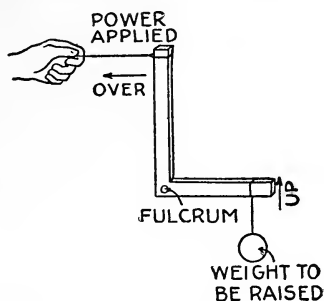

FIG. 40. A BENT LEVER
(3) Where the power is applied between the load and the fulcrum as shown at A, Fig. 39; the foot treadle of a jig saw and sugar tongs are levers of this class. See B, Fig. 39. Then there is the *bent lever*, as shown in Fig. 40, where the power and load do not act parallel with each other, and the *compound lever*